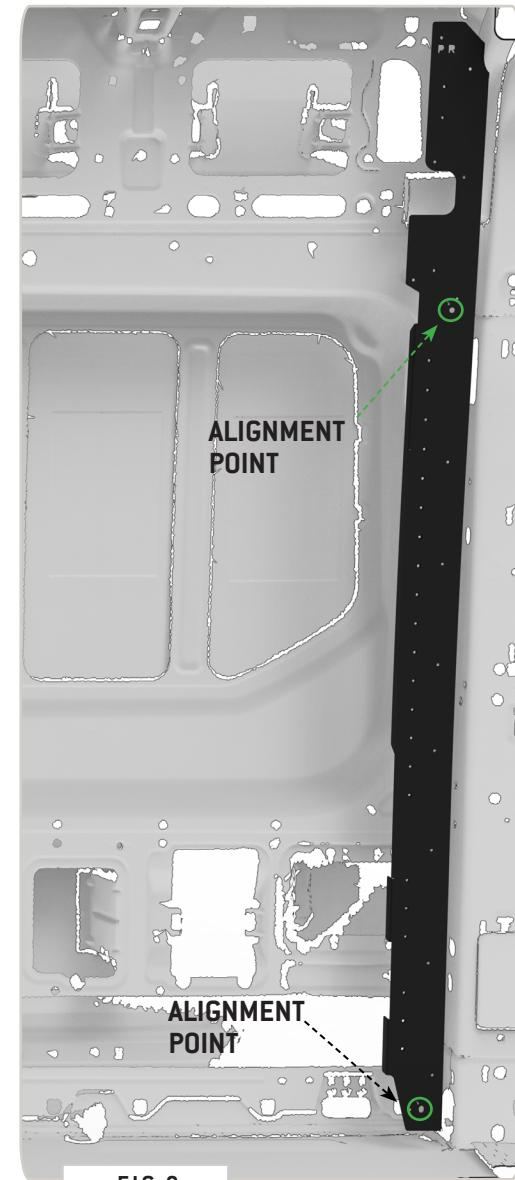

FIG 8
3.3 Align Driver Side Rear Bracket: Align the **Driver Side Rear Bracket** to the **Alignment Point** as shown in **FIG 8**.